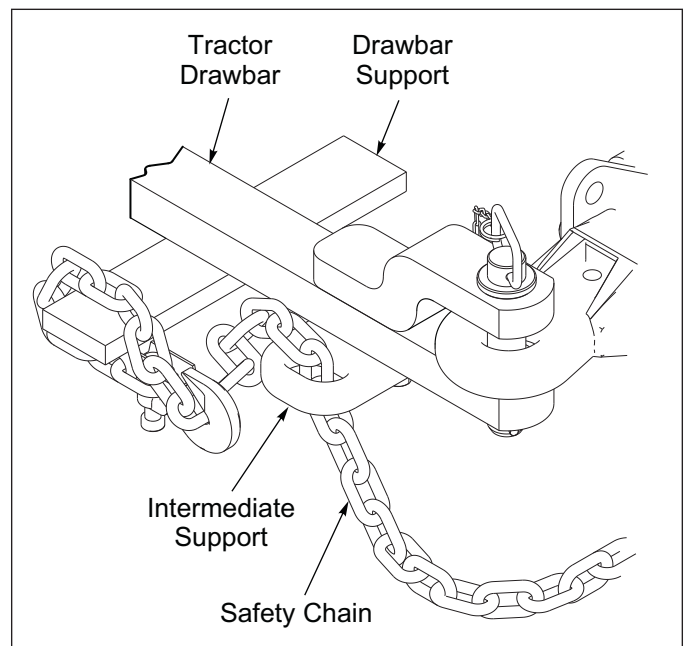

Figure 3-12: Safety Chain
- Attach the Safety Chain to the tractor Drawbar Support. **See Figure 3-12.** Provide only enough slack in the chain for turning. Do not use an intermediate chain support as the attaching point